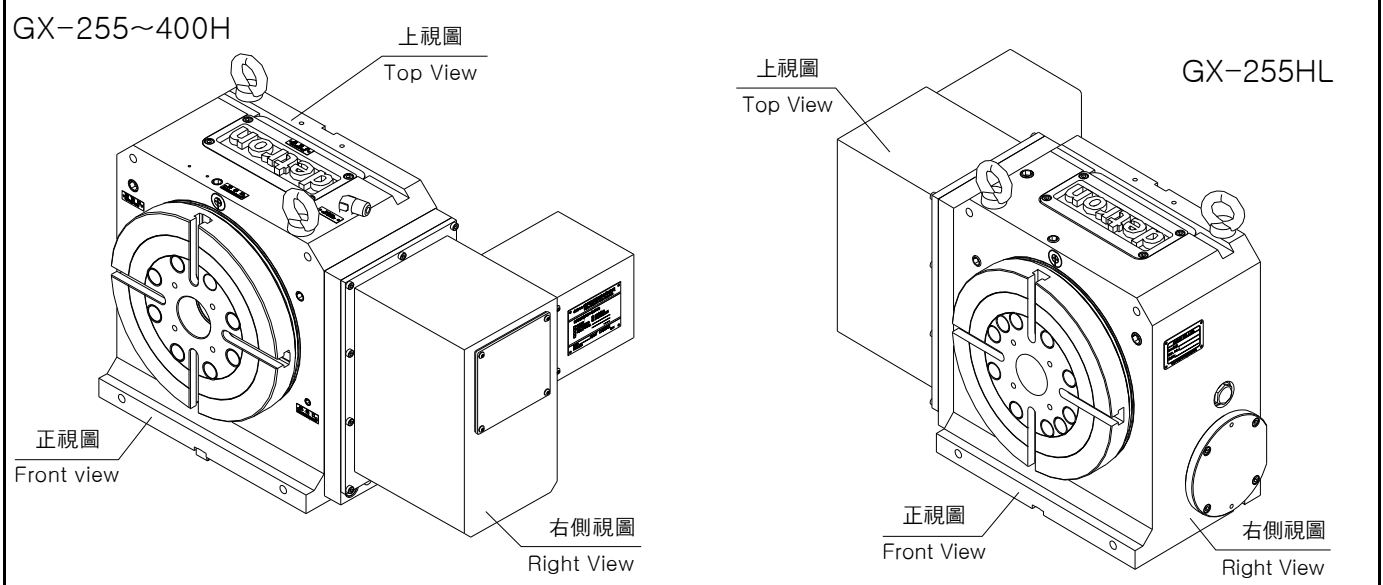

Fig 5-1
- (5).Add Lubrication. (see Fig 5-1~5-2 · Page 11-1)
- (6).Make sure that the electrical connection between the Rotary Table and the machine controller is well connected according to the attached electrical circuit diagram.
(see Fig 5-1~5-2 · Page 10-2)(Note: Hydraulic oil needs filtration)
- Inaccurate relative position between proximity switch and Zero Dog. Open the cover of observation window, loosen screws on Zero Dog; move Zero Dog to a proper position and test for correct action. Replace the cover of observation window. (*see Fig 5-1~5-2*)